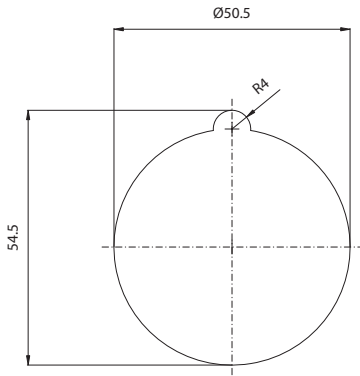
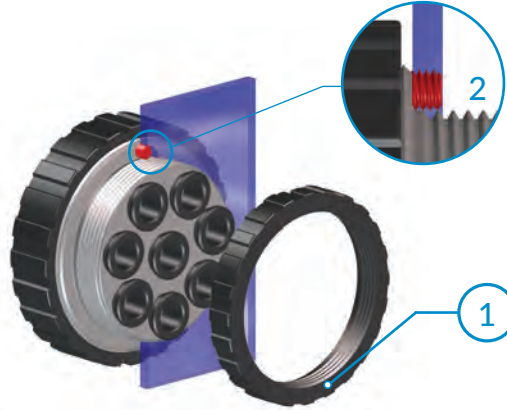

Fig. 1
Fig. 2
Loosen counter nut (1) from the multiple connector socket; tighten the screw (2) to let it sticks out as much as the wall thickness (Fig.2). Place the socket in the wall hole and allow for the screw to fit into the seat drilled through in the wall (Fig.1). Tighten the counter nut (1) on socket body until bottoms (Fig.3).